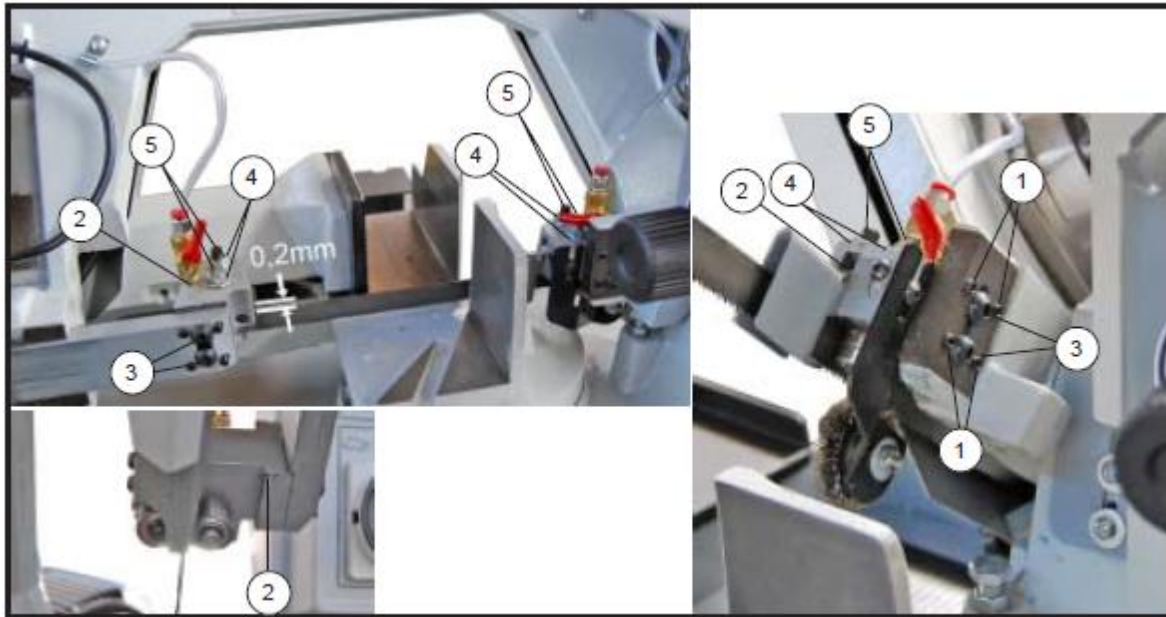

Fig. 5-11
- b) Adjust the screws (1 fig. 5-11) on the blade-guide (2 fig. 5-11) providing 0,2mm clearance between the back of the blade and the inner part of the blade-guide block.
- c) Once the adjustment has been effected, tight the screws (3 fig. 5-11) making sure that the blade-guide block is perpendicular to the blade.
- d) Release the Nut (4 fig. 5-11) and adjust the Eccentric Pin (5 fig. 5-11) so as to rest the bearing to the side of the blade. Proceed the same way with the other bearings.